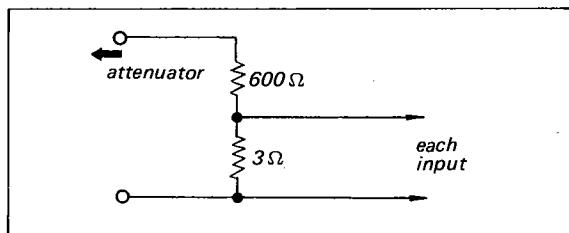

Fig. 3-1. 46 dB pad
Note: 1. When measuring the sensitivity of the PHONO-1 LOW LEVEL input, insert a 46 dB pad (shown in Fig. 3-1.) between the attenuator and input terminal. The input sensitivity may be regarded as the reading on the attenuator plus the pad-loss.
* The PHONO-1 IMPEDANCE SELECTOR switch should be set to 30Ω and an additional attenuator pad (See Fig. 3-1.) used between the main attenuator and input jack.